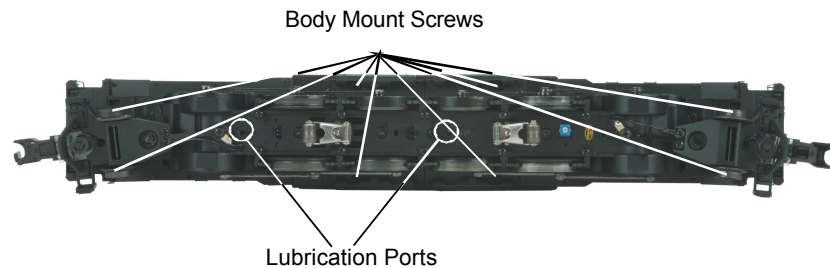

Figure 3: Body Removal Screw Locations
1. In order to gain access to the gearbox, remove the cab from the chassis by unscrewing the body mount screws as seen in Figure 3. Then separate the cab and the chassis.